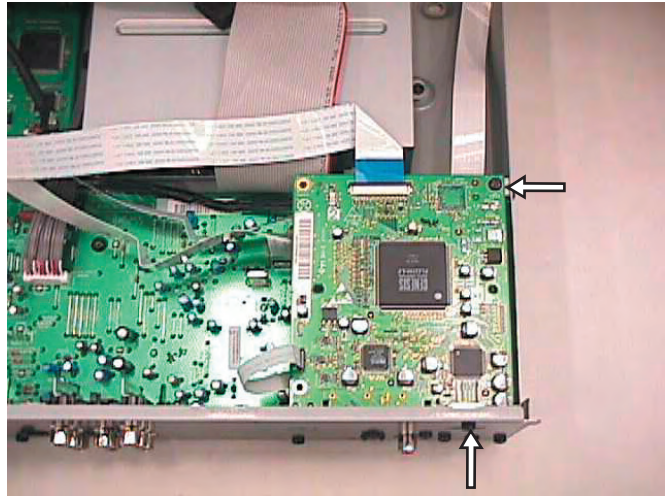

Figure 4-13
- 2) Remove the HDMI board as shown in Figure 4-13.
- 3) Remove 15 screws on the Rear panel as shown in Figure 4-13.
- 4) Remove 3 screws mounting the Analog Board to the Frame Assembly as given in Figure 4-13.
- 1) Remove the HDMI board as shown in Figure 4-13.